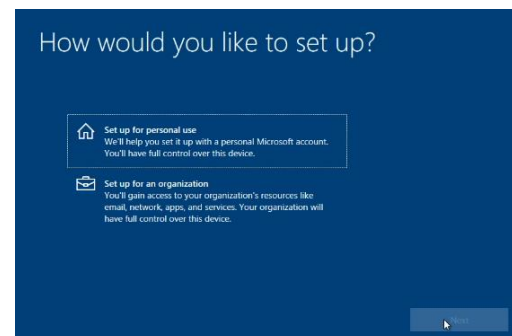

FIGURE 88: TESTOUT CORP. (2020, JANUARY 14). TESTOUT PC PRO (SECTION 10.3.4). RETRIEVED FROM [HTTP://WWW.TESTOUT.COM](http://www.testout.com)
11.3.10. (See Fig. 88) On the next screen, you will be asked if you want the system set up for personal use or for an organization. This PC Build assumes that the user will be using the system for personal use. Click "Set up for personal use", then click the Next button.